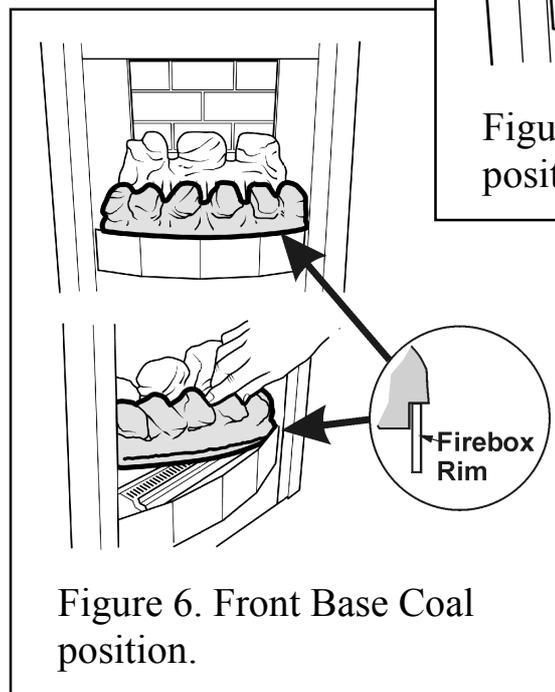

Figure 6. Front Base Coal position.
3. Place the front base coal in the firebox with its bottom front locating over the front rim of the firebox. Pull the coal forward so that it locates immediately behind the front rim of the firebox. See figure 6.